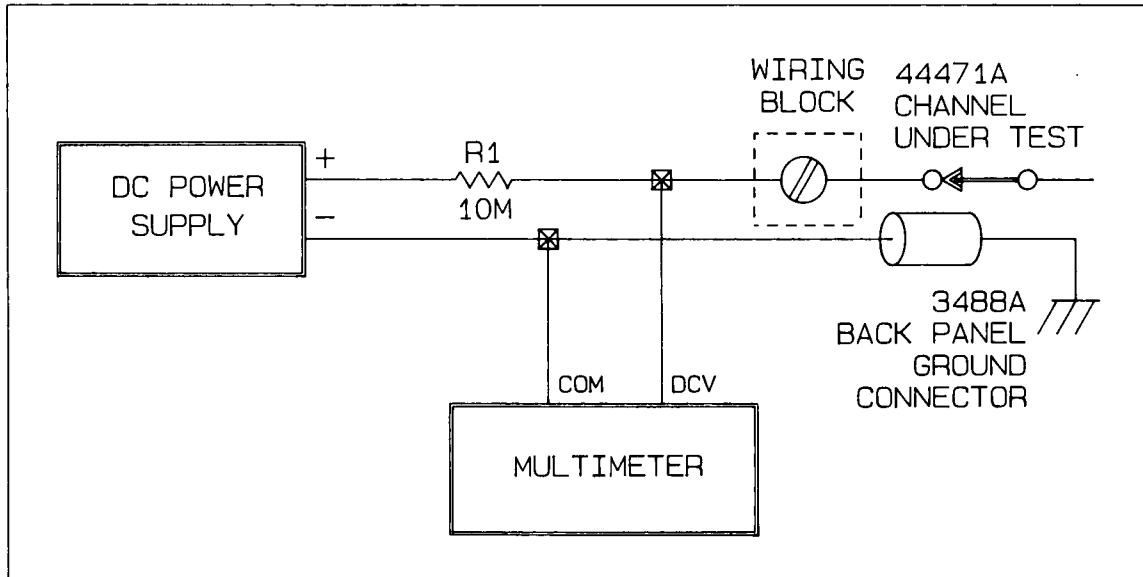

Figure 9-7 Channel To Chassis DC Isolation
11. Connect the equipment to the 3488A back panel ground connector (chassis ground) and to the channel under test (channel 00 to start) as shown in Figure 9-7.